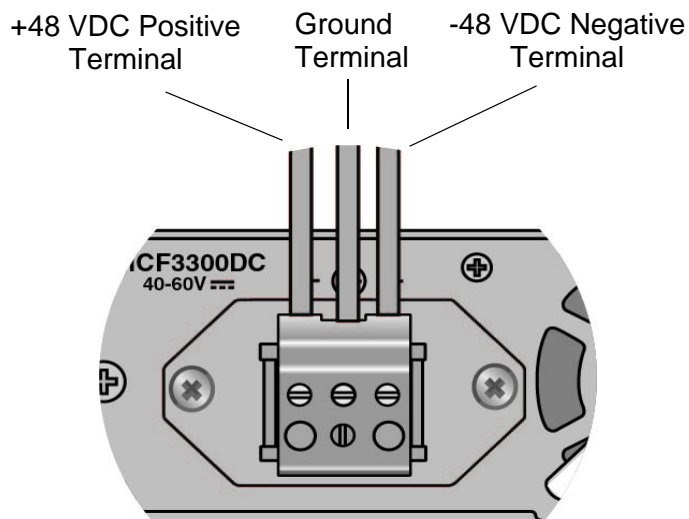

Figure 73. Power Wires on the MCF3300DC Power Supply
2. Disconnect the -48 VDC feed wire from the terminal marked - (minus). Refer to Figure 73.